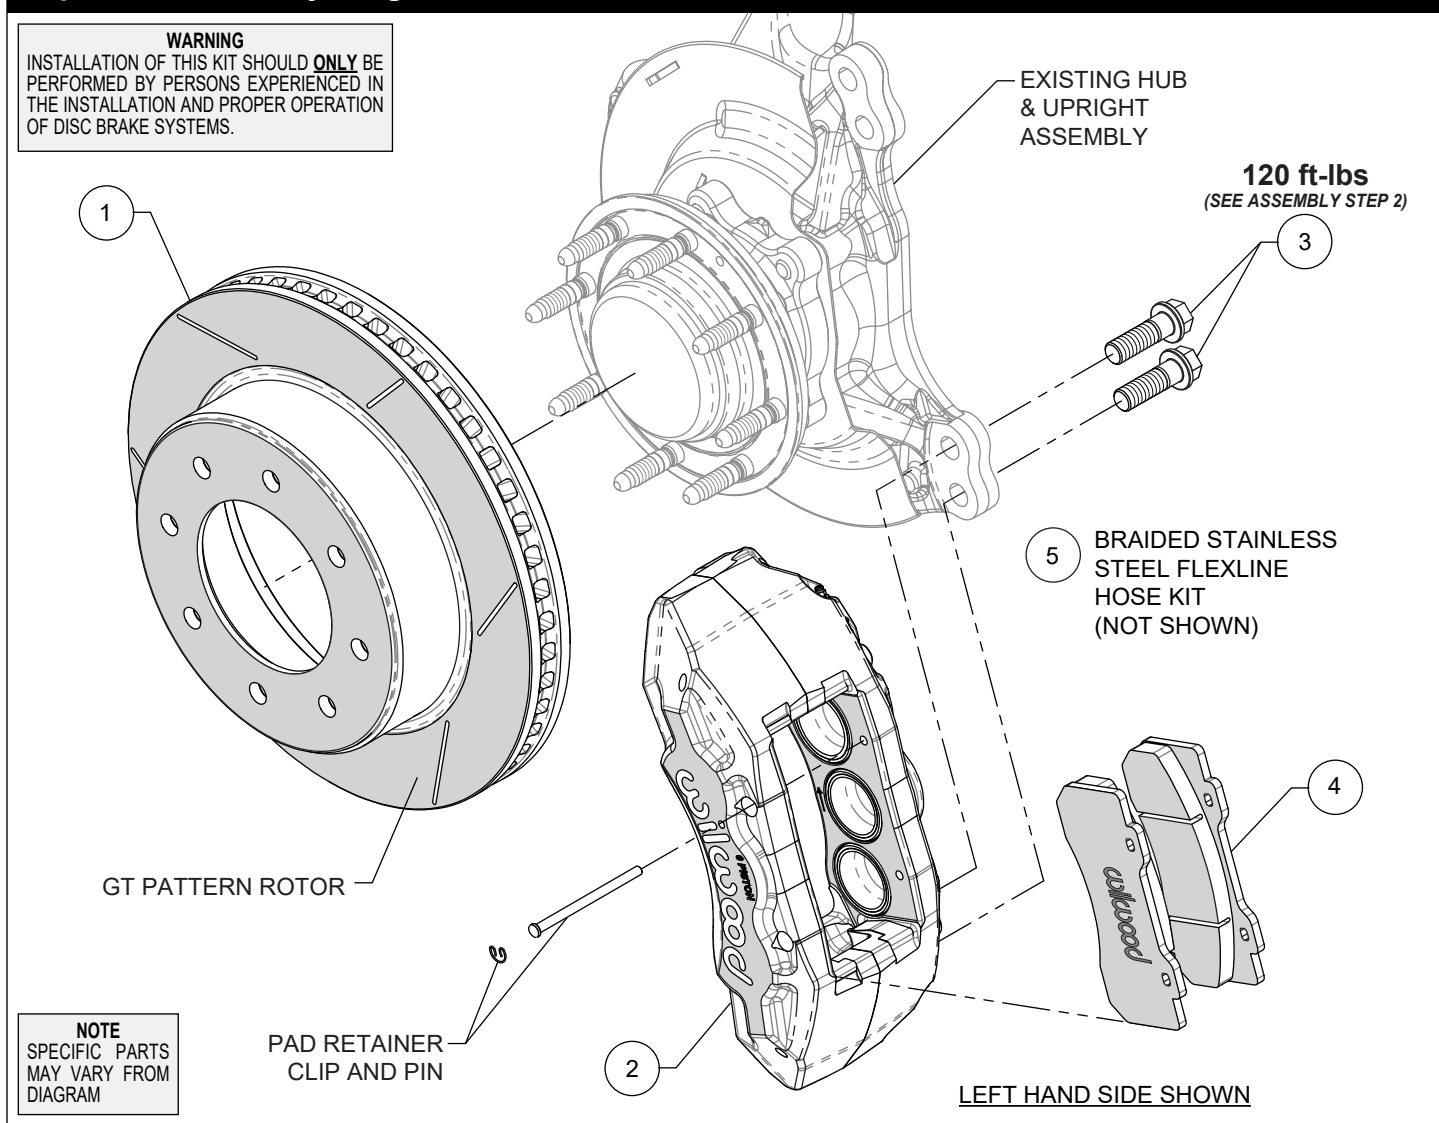

Figure 1. Typical Installation Configuration
Numbers in parenthesis refer to the parts list and Figure 1 on the preceding pages.
STEP 1 Slide the rotor (1) onto the hub. **NOTE:** The rotor must fit flush against the hub flange or excessive rotor run out may result. Install three lug nuts (finger tight) to keep the rotor in place while continuing with the installation, Photo 1.
STEP 2 **NOTE:** This kit contains distinct right and left hand calipers that must be mounted in a specific direction, as described below. Ensure that the caliper is mounted so the largest pistons are at the rotor exit end of the caliper, in relation to the forward direction of the rotor. Mount the caliper (2) onto the OEM caliper mounting bosses of upright using bolts (3), as shown in Photo 2 and Figure 1. **NOTE:** Mount bolts (3) come with locking compound on the threads and do not require Loctite on first installation. If bolts are removed and reinstalled, apply red Loctite® 271 to bolt threads. Torque to value shown in Figure 1.
STEP 3 Remove the two pad retaining pins from the caliper by carefully popping out the pin retaining clips and sliding out the pins. Insert the brake pads (4) into the caliper, with the friction material facing the rotor, as shown in Photo 3. Secure the brake pads in place with the pad retaining pins and clips, Photo 4.
STEP 5 Attach brake line to caliper. **NOTE:** OEM rubber brake hoses generally cannot be adapted to Wilwood calipers. Install Wilwood's braided stainless steel flexline hose kit (5), p/n 220-17465, included with this kit. The caliper inlet fitting is a 1/8-27 NPT. Use the included steel adapter fitting at the caliper (use PTFE tape on the pipe threads of adapter fitting for proper sealing to caliper). Note the final orientation of the caliper inlet adapter fitting as shown in Photo 8.